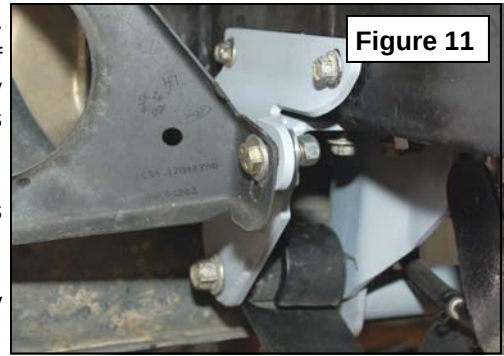

Figure 11
23. Reinstall front bumper at this time re-using the factory hardware on the front of the bumper. The bumper supports (if equipped) will be installed on the new Rough Country bracket with the supplied 1/2" x 1 1/2" bolts/washers & nuts using a 3/4" wrench. **See Figure 11.**